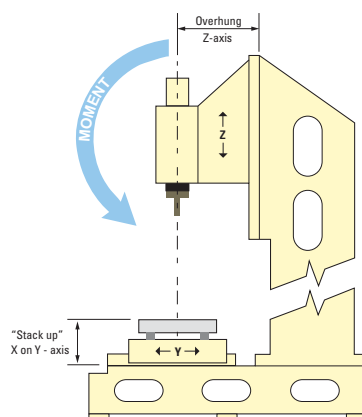

Figure 2
- The X axis is "stacked up" on the Y axis (Figure 2)